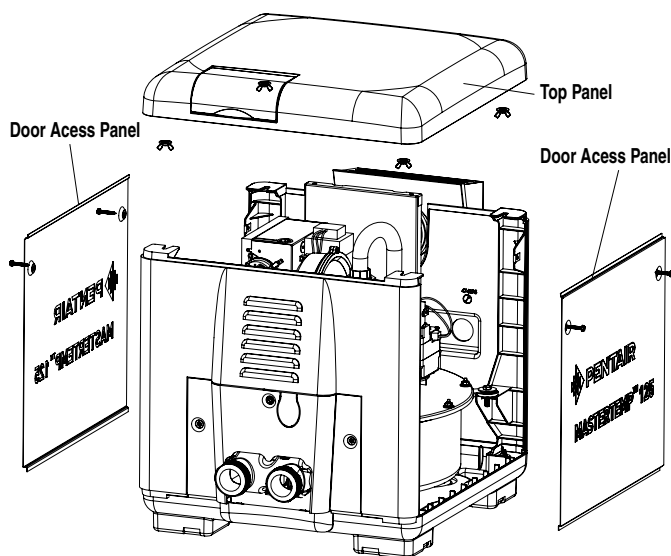

Figure 33.
1. Unbolt and remove the door panels (see Figure 33).